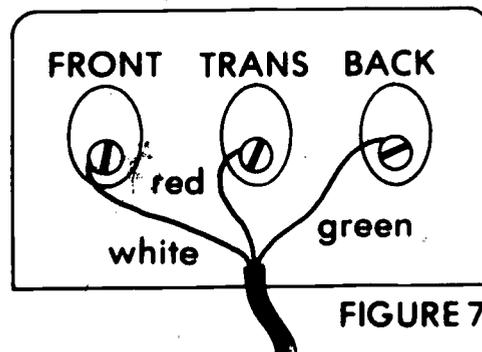

FIGURE 7
K. Connect conductors to chime (Figure 7)